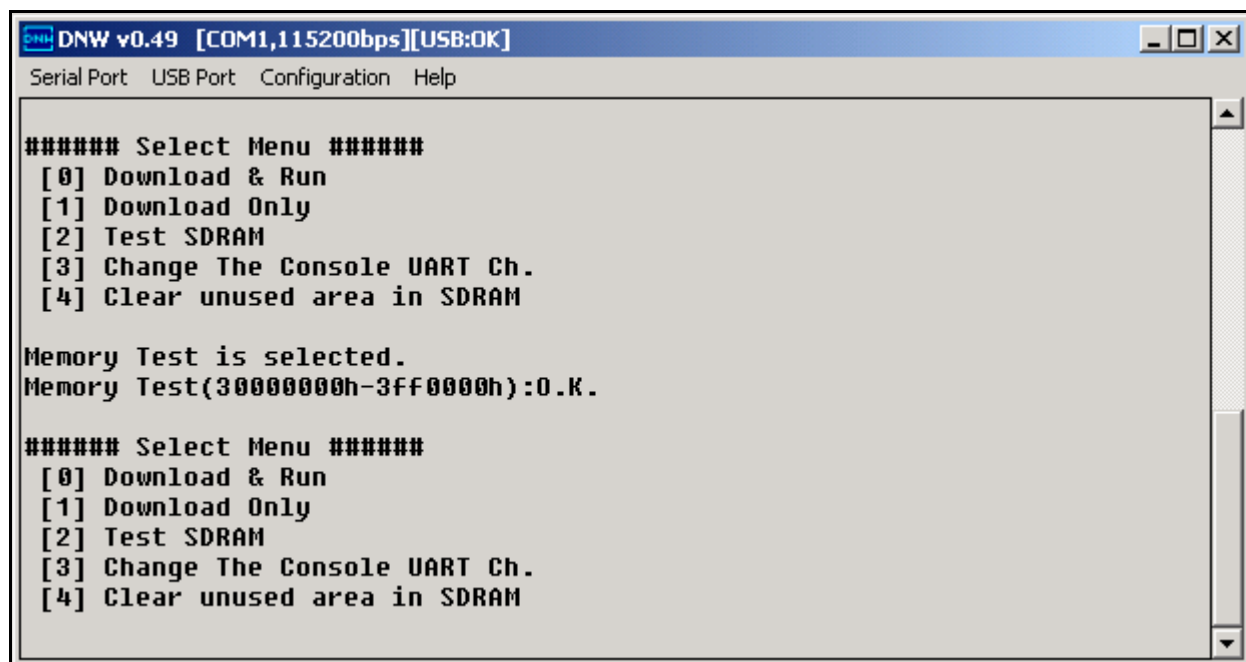

Figure 5-4 SDRAM Test
6. Please enter '2' to check whether SDRAM can Read and Write. Now the DNW application window will appear as shown below in the figure 5-4.